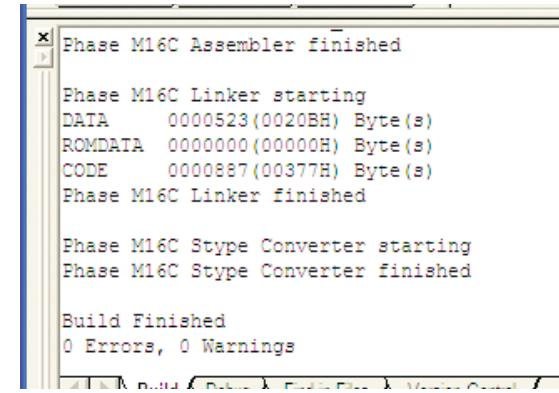

Figure 3. HEW with the skptestR8C project compiled
- Click the “Build” icon, , to compile, assemble and link the project. HEW will look similar to Figure 3.